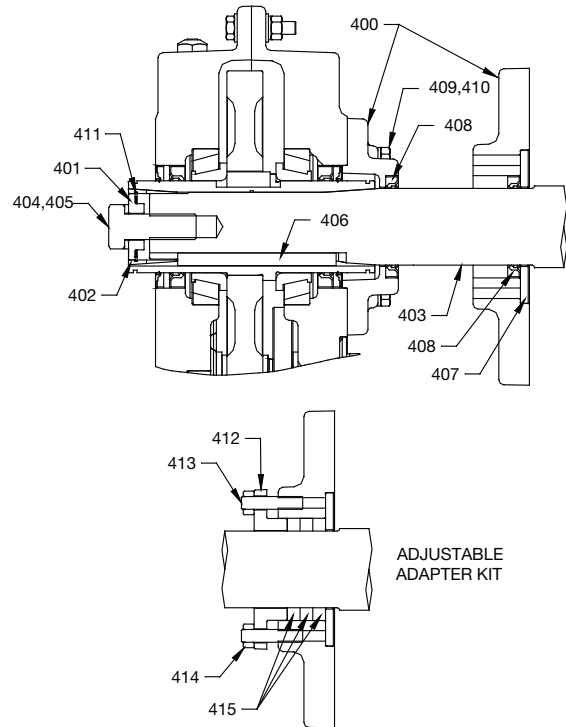

Figure 1 - Screw Conveyor Adapter Assembly
1. Install seals (408) into adapter housing as shown in Figure 1. If the optional packing adapter is to be used, install only one seal in the small end of the adapter. Use extreme care when installing seals to avoid damage to the seals. Press or tap seals into place by applying pressure only on the outer edge of the seal. Make sure seals are install evenly and are not tilted.
2. If using the optional packing adapter, install the two studs (413), retaining ring (412), and two nuts (414). Thread the nuts onto the studs about 4-5 threads. Install the three braided type seals (415) in a circular direction into the adapter cavity. Shoulder the braided seals against the adjustable retaining ring (412). To aid in installation of the driveshaft in step 7, the braided seals can be flattened out slightly with a soft hammer prior to installation. When installing the braided seals offset the joints from each other.
3. Lightly tap the large washer (407) into the counterbore on the large end of the adapter to seal the braided material installed in step 2 or the seal installed in step 1.
6. Place four adapter screws (409) and lock washers (410) through the adapter and thread into the reducer. Tighten the four cap screws (409) to the torque specified in Table 1.
8. Install the retaining ring (411) into the screw conveyor wedge (402). Making sure the driveshaft is fully seated into the reducer, slide the wedge onto driveshaft.